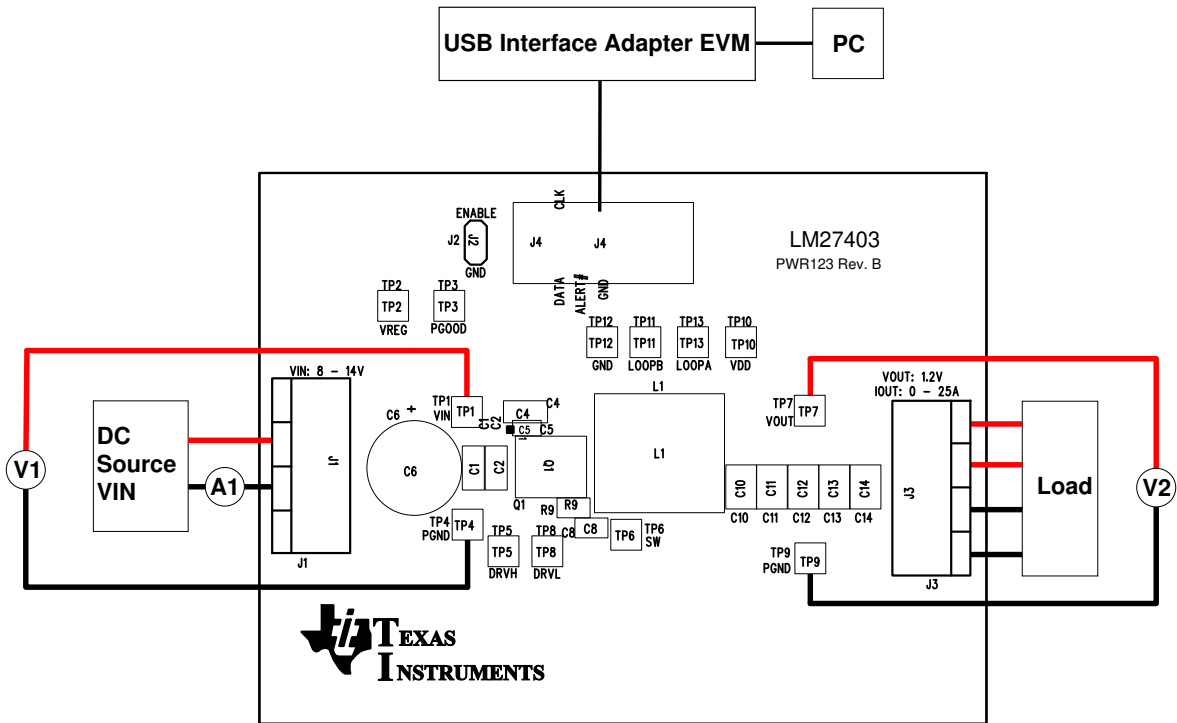

Figure 4-3. TPS53819AEVM-123 Recommended Test Setup
Figure 4-3 is the recommended test set up to evaluate the TPS53819AEVM-123. Working at an ESD workstation, make sure that any wrist straps, bootstraps or mats are connected referencing the user to earth ground before power is applied to the EVM.
1. Prior to connecting the DC input source  $V_{IN}$ , it is advisable to limit the source current from  $V_{IN}$  to 10-A maximum. Make sure  $V_{IN}$  is initially set to 0 V and connected to J1 as shown in Figure 4-3.
2. Apply the input voltage to the EVM. Refer to Figure 4-3 for connections and test setup.
1. Set up the EVM as described in Section 4 and Figure 4-3.
2. Set up EVM as described in Section 4 and Figure 4-3.